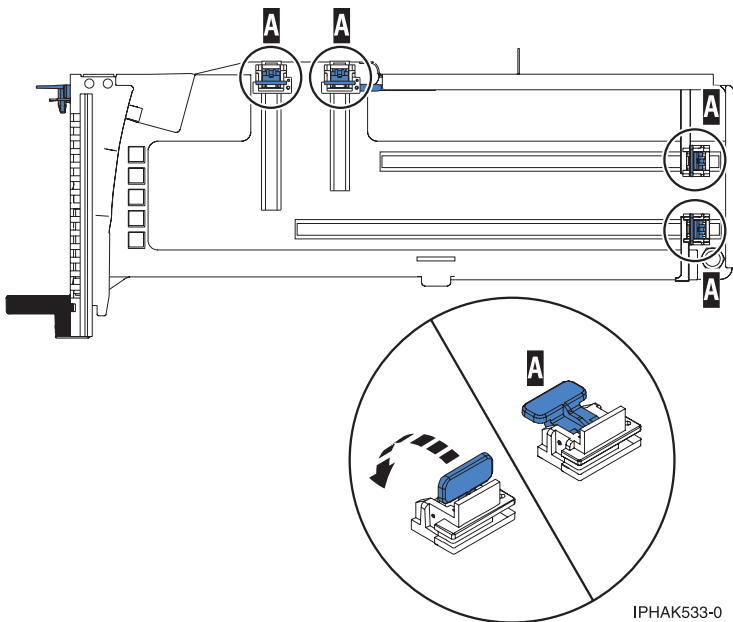

Figure 53. Adapter retainers in a cassette
- a. Ensure that all of the adapter retainers have been pushed out to the edges of the cassette to allow the placement of the adapter. See Figure 53.